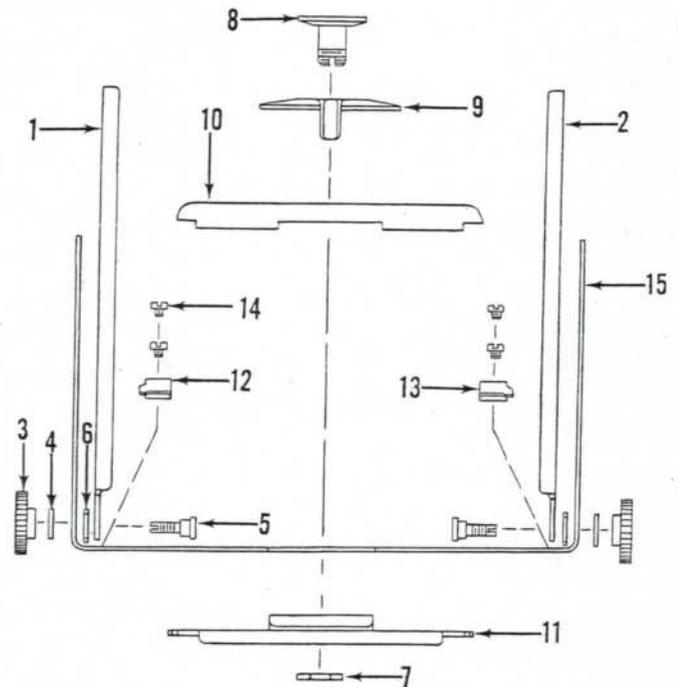

Figure 17A. FRONT STANDARD ASSEMBLY
1. Remove locking knob (1) and flat washer (2) from two upper sides of front standard assembly. Ends of locking stud are staked.
2. Spread sides of front standard assembly (4) and lift upward on front frame assembly (with bellows and finder attached). Remove flat washer (2) and locking stud (3) from two sides. If disassembly of front standard assembly (4) is necessary see figure 17A.
3. Remove front frame assembly (5), solenoid assembly (6) and shutter trip crank (7).
4. Remove two upper locks (8) and two lower locks (9).
5. Remove right stile assembly (10) and left stile assembly (11) by removing four special machine nuts (12) and four machine screws (13).
6. Remove finder complete (14) from base plate of bellows complete (15).
#### H. FRONT STANDARD ASSEMBLY - DISASSEMBLY (figure 17A)
#### J. FRONT STANDARD ASSEMBLY - REASSEMBLY (figure 17A)